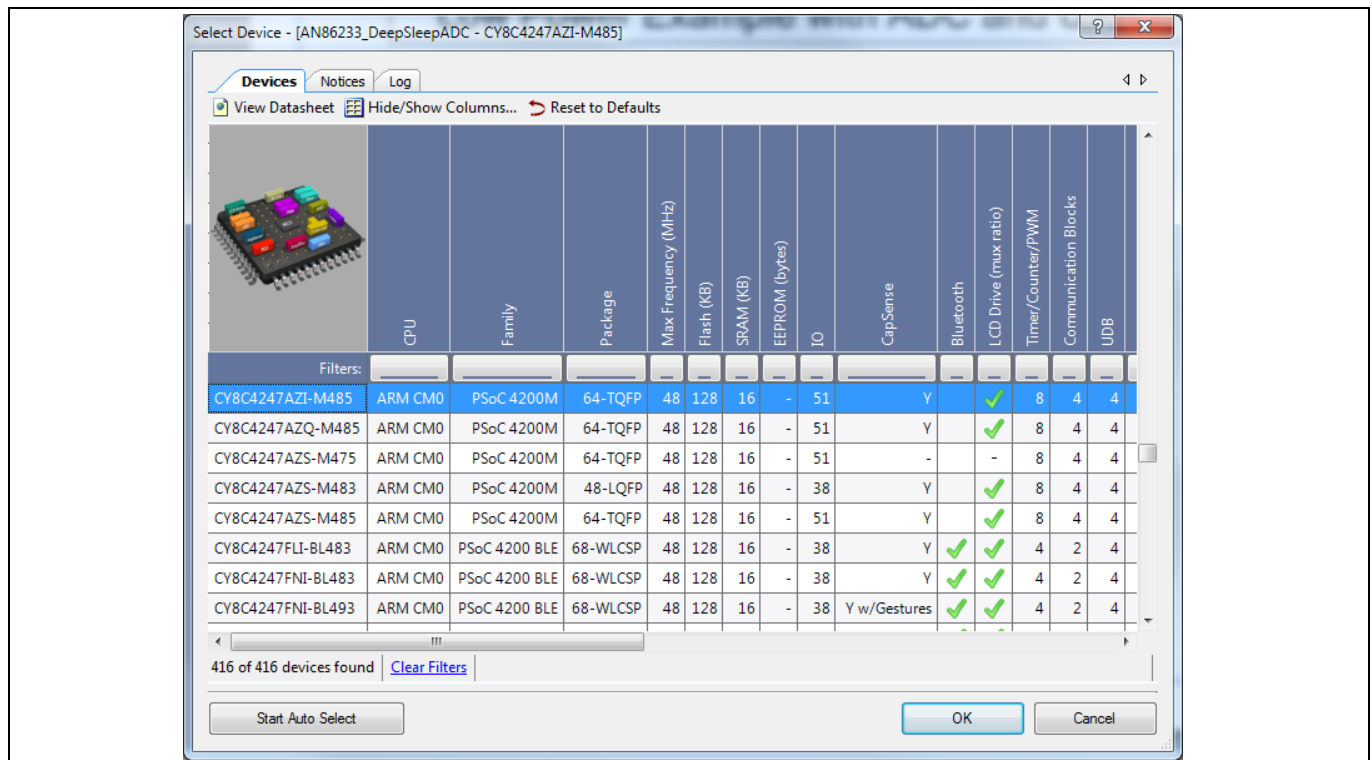

Figure 12 Device selector window
3. Select the appropriate device from the pop-up menu that appears, as Figure 12 shows.
To change the power mode the device is in, press the on-board button longer than two seconds to put the device into Deep Sleep. To switch the device into sleep mode, press the button between 200 ms and two seconds. This allows the device to easily switch power modes so that they can be compared. See Figure 12 to see how to switch modes.